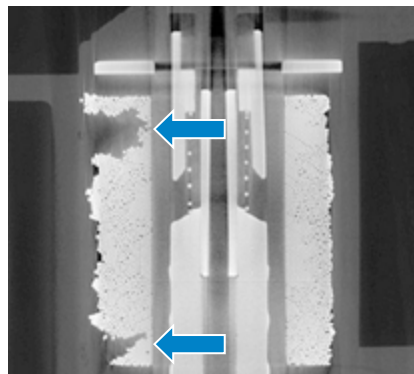

Fig. 7
- “The computer tomography section reveals the unclean winding” (Fig. 7).